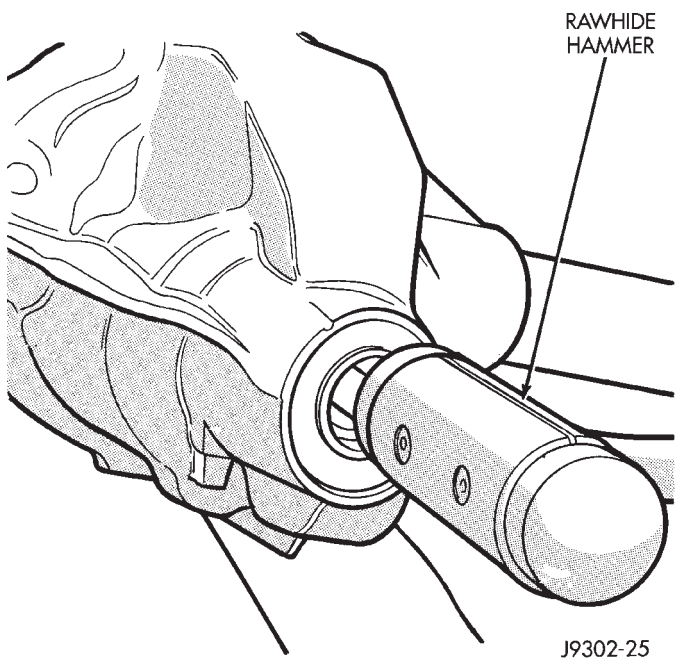

Fig. 40 Remove Pinion Gear
(6) Remove the pinion gear from housing (Fig. 40). Catch the pinion with your hand to prevent it from falling and being damaged.